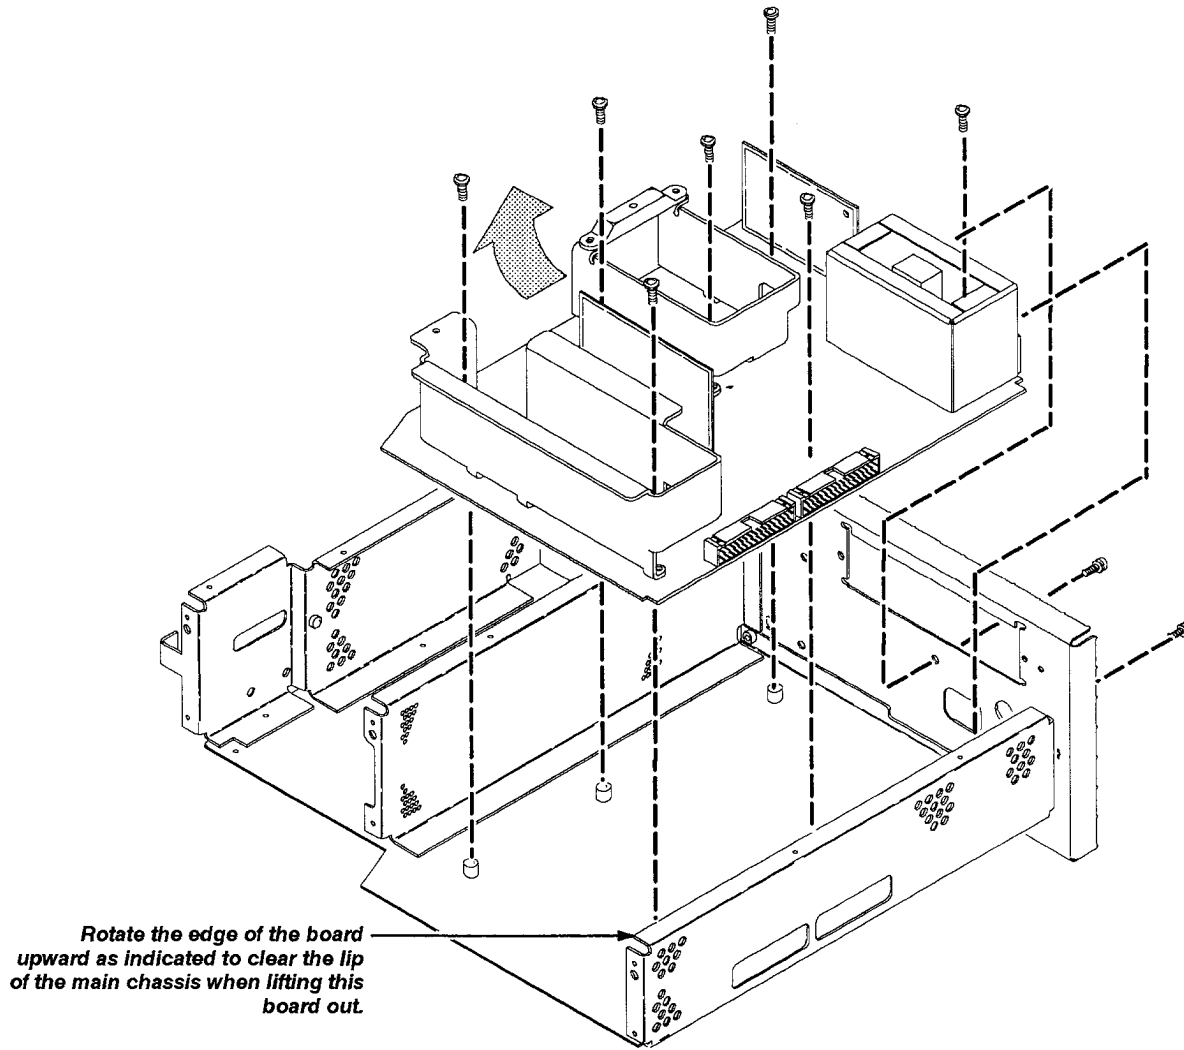

Figure 6-17: A16 Low Voltage Power Supply Removal
- a. Working from the rear of the oscilloscope, remove the two screws securing the low-voltage power supply to the rear chassis. See Figure 6-17.